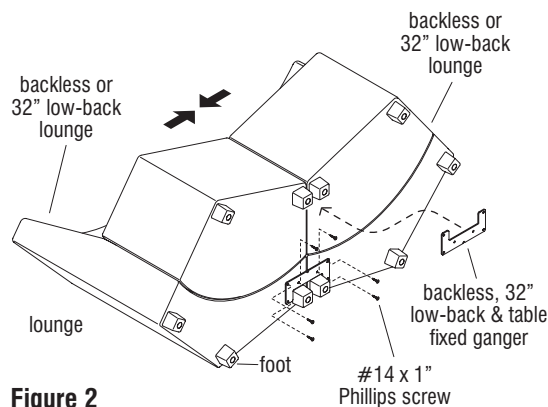

Figure 2
1. Carefully lay two backless or 32" low-back lounge units onto their backs or upside down, next to each other on a soft, protective surface to begin the fixed-ganging process. Carefully hold and align the two units together, position a backless, 32" low-back & table ganger centered between the two units (Figure 2), as illustrated around the square feet (for the foot option – Detail A) or aligned and centered around glides (less precisely for glide option – Detail B).
2. One ganger at a time, fastening screws into one lounge unit at a time, secure a ganger to the underside of two units being joined either using #14 x 1" Phillips screws into lounge seat units (Figure 2 & Details A & B), or using #14 x  $\frac{3}{4}$ " Phillips screws under any inline table being ganged (Figure 3 & Detail C).